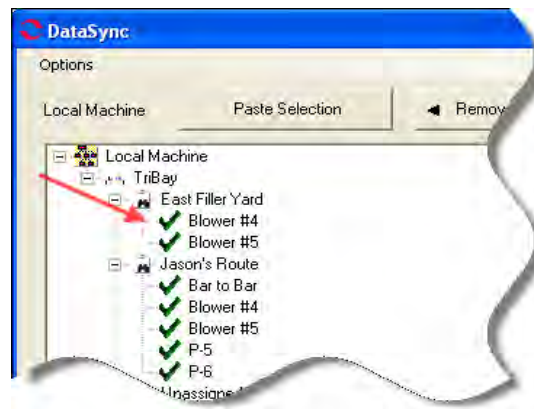

Figure 4-44: DataSync Window After DownSync
7. The DataSync window displays the datasync progress and a message appears when the datasync is complete. Click **OK**. The Condition Code icon in front of the asset changes to a check mark. See Figure 4-44.